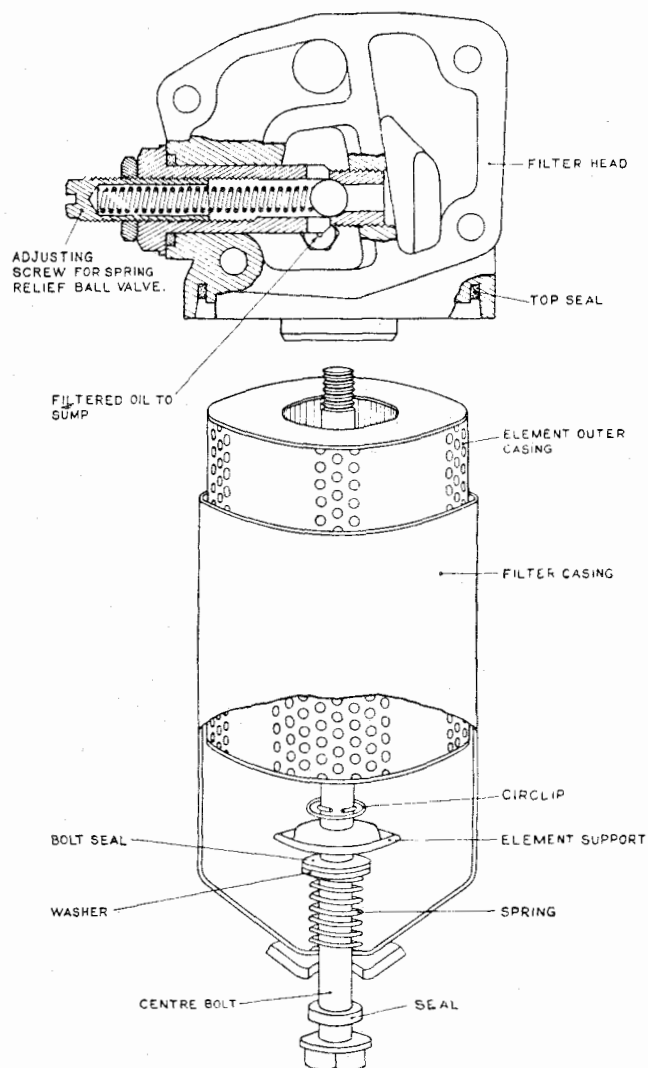

Fig. 29
18. THE “PUROLATOR MICRONIC” OIL FILTER—TYPE 17F. 5102 (Fig. 29)